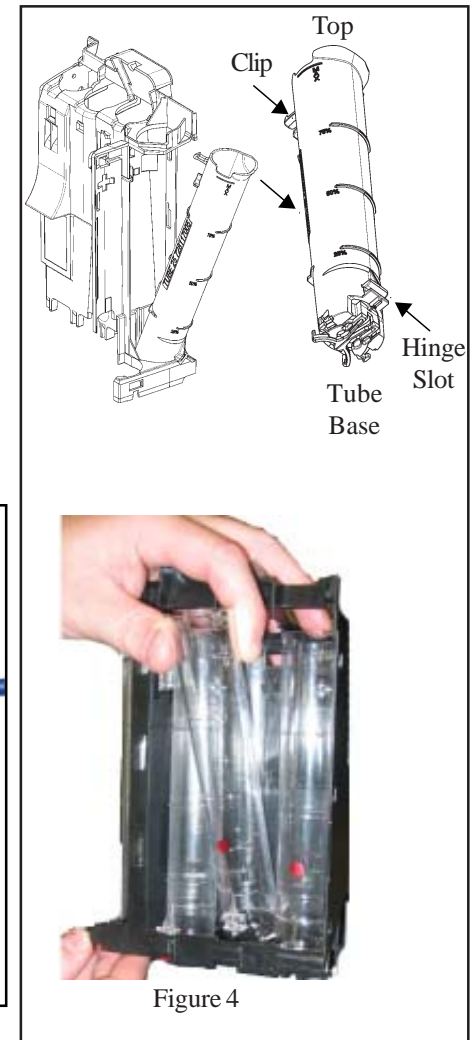

Figure 4
- 4) Once the clip is loose, the top of the tube hinges out and dislodges from the hinge slot located at the base of the tube(as shown in figure 4).